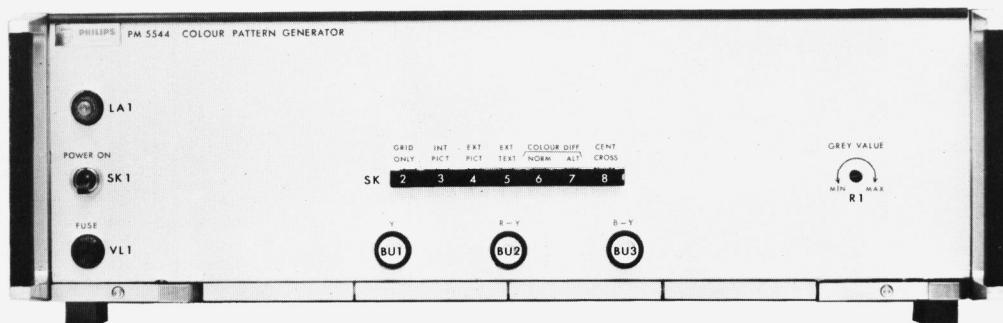

Fig. VIII-1. Front of the instrument
A. Front of the instrument (see fig. VIII-1)